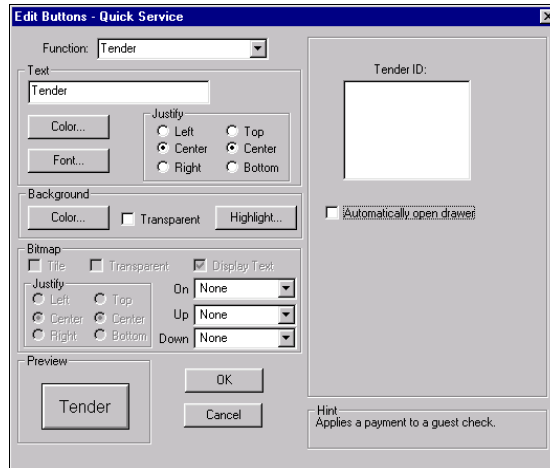

Figure 5-114 Tender Button Function
1. Select **Tender** from the **Function** drop-down list. Additional options display, as shown in Figure 5-114: